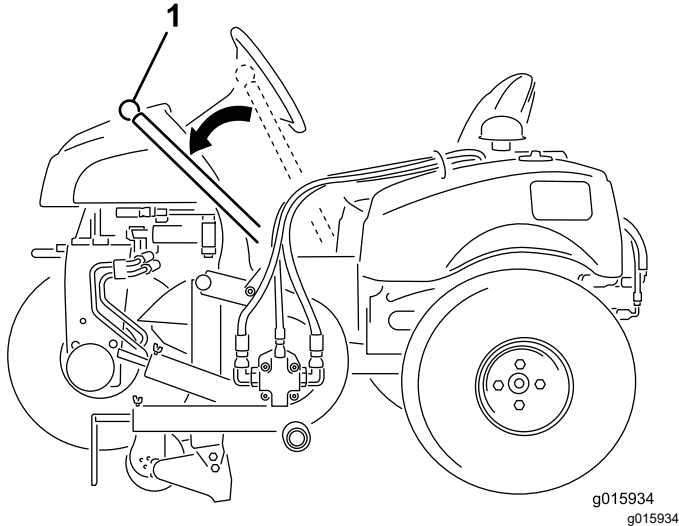

Figure 10
Use the handle to raise and lower the edger (Figure 10).
2. Press outward on the handle and lower the edger blade to the ground (Figure 10).
- Press outward on the handle and raise the edger blade to the transport position (Figure 10).